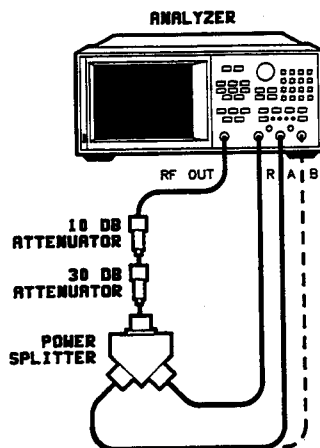

Figure 6. Source Harmonics Test Setup
1. Connect equipment as shown in Figure 6. Allow 30 minutes warm-up. Set the analyzer operating parameters.
6. Remove the 10 dB attenuator from the test setup shown in Figure 6 to measure the combination of source and receiver harmonics.